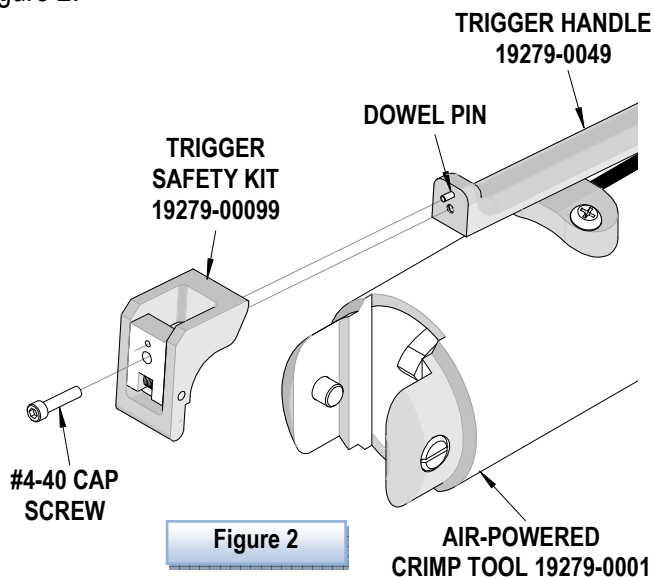

Figure 2
4. Re-install the #4-40 socket head cap screw. See Figure 2.